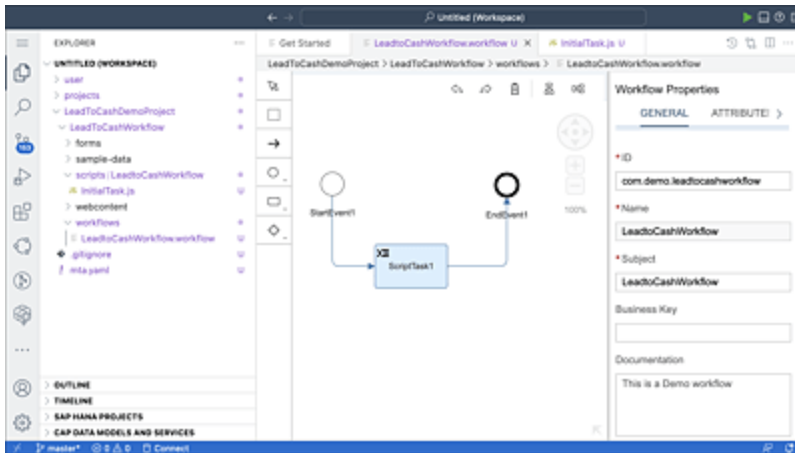

Figure 18.12 Workflow with a Script Task
4. You can see that there are two events automatically created in the workflow: **StartEvent1** and **EndEvent1**. We'll talk about these events in detail in Section 18.2.4. For now, let's connect the start event to our newly created script task. For this, select the arrow between the start and end events and delete it. Then, click on **StartEvent1**. From the resulting context menu, select the arrow icon on the top, which represents the sequence flow, and drop it on the script task. Do the same from the script task, and drop it on the end task. The resulting screen will look like Figure 18.12.